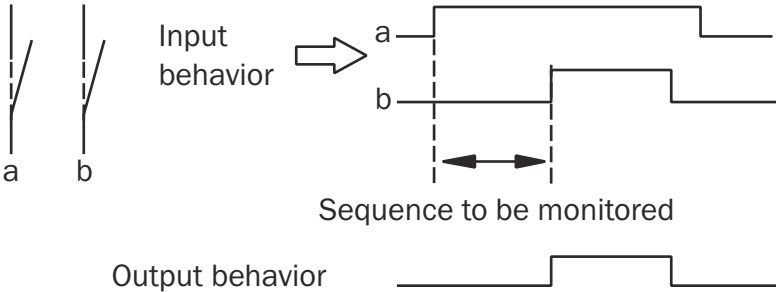

Figure 9: Switching behavior RE27 (unactivated)
- Both contacts must change output state, before it can be reset. Compliance with this sequence must be monitored by the safe evaluation unit (figure 2figure 5figure 9).